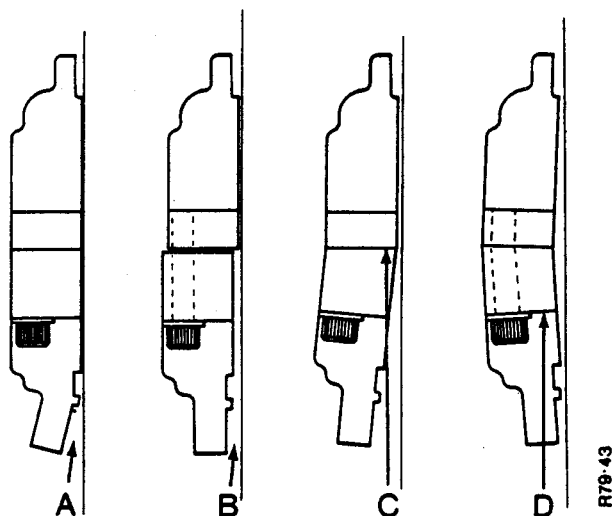

FIGURE 49 OIL RETAINER FAULTS
1. Check the retainer for the faults A, B, C and D Shown in Figure 49.
3. Check that the seat of the socket head screw is parallel to the joint face of the retainer. See fault D, Figure 49. If the seats are not parallel, the retainer will bend when the screws are tightened. If necessary use a file as in Operation 2 to make the faces parallel.